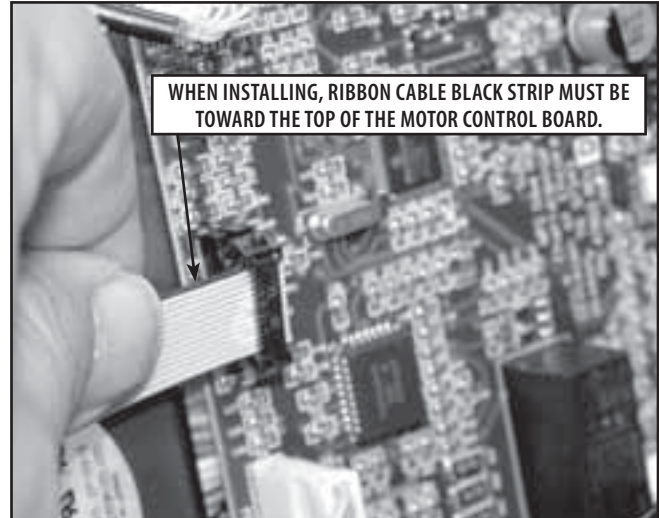

FIGURE 6.4
3. Disconnect the Touch Screen Ribbon Cable from the Motor Control Board. See Figure 6.4.
3. Connect the Touch Screen Ribbon Cable to the "Display" Connector on the Motor Control Board. See Figure 6.4.